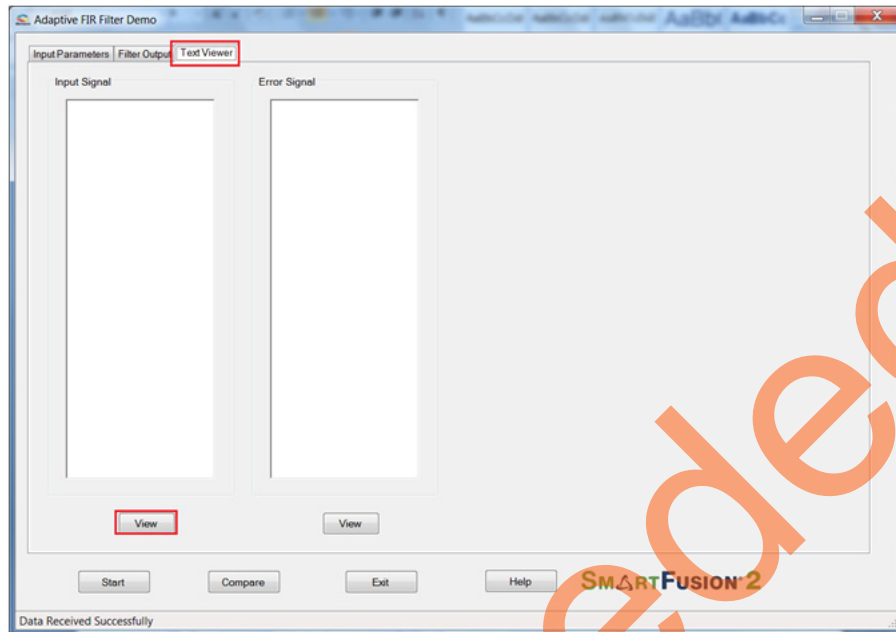

Figure 25 • Text Viewer
14. The input signal and error signal values can be viewed in the **Text Viewer** tab. Click on the **Text Viewer** tab and then click on the corresponding **View** shown in Figure 25.